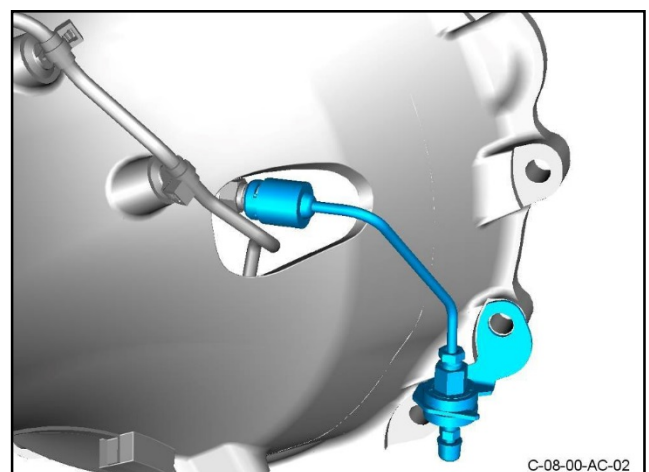

Figure 5
7. Remove the bleed pipe (refer to Figure 5).